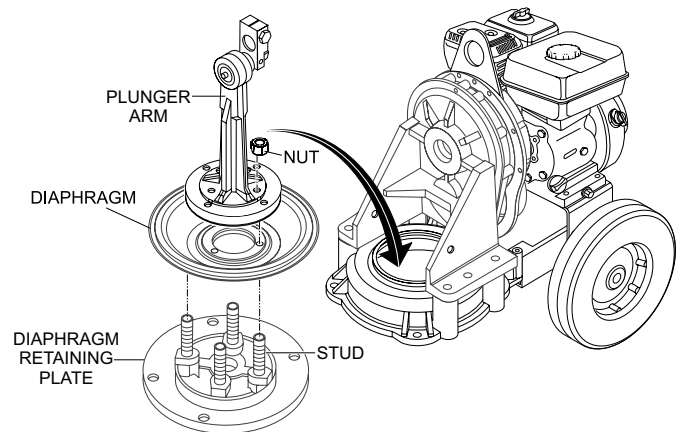

Figure 26. Diaphragm Replacement
5. Remove the four nuts (Figure 26) that secure the diaphragm retaining plate to the plunger arm base. Remove diaphragm.